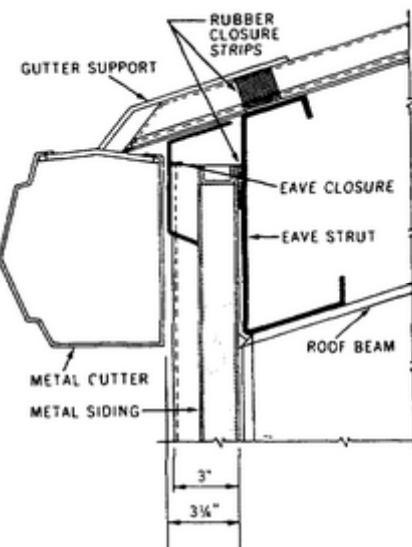

*Figure 41. Rubber seals.*
5-21. A solid rubber seal is used to make a waterproof joint where ribbed panels overlap a smooth surface. Figure 41 (A, B, C, and D) shows the shape of the rubber seals used with roof and wall galvanized sheet metal panels (A), aluminum ribbed panels (B), asbestos-cement panels (C), and corrugated glass panels (D). The seals are placed under the panel to prevent moisture from getting between the panel and the smooth surface.